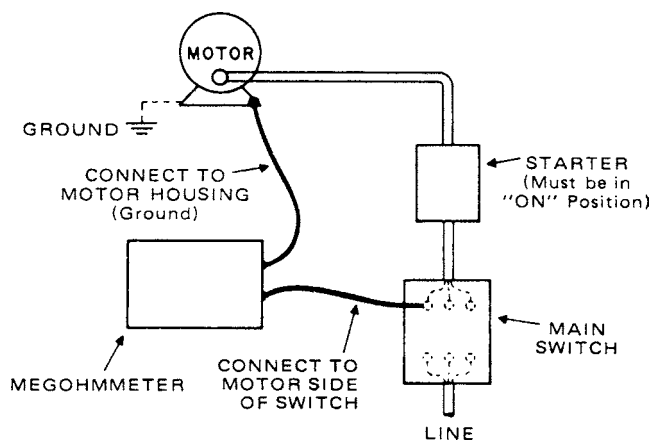

Fig. 5-71 Using a megohmmeter to check the insulation of the windings of a motor.
If the motor is disconnected at the motor terminals, connect one megohmmeter lead to the grounded motor housing. Connect the other lead to one of the motor leads. See Fig. 5-71. For testing (DC), disconnect the motor from the line. To test the brush rigging, field